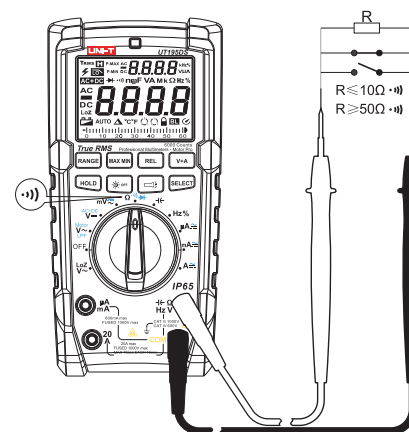

Figure 3a
6. Resistance and Circuit Continuity Measurement (See Figure 3a+3b)